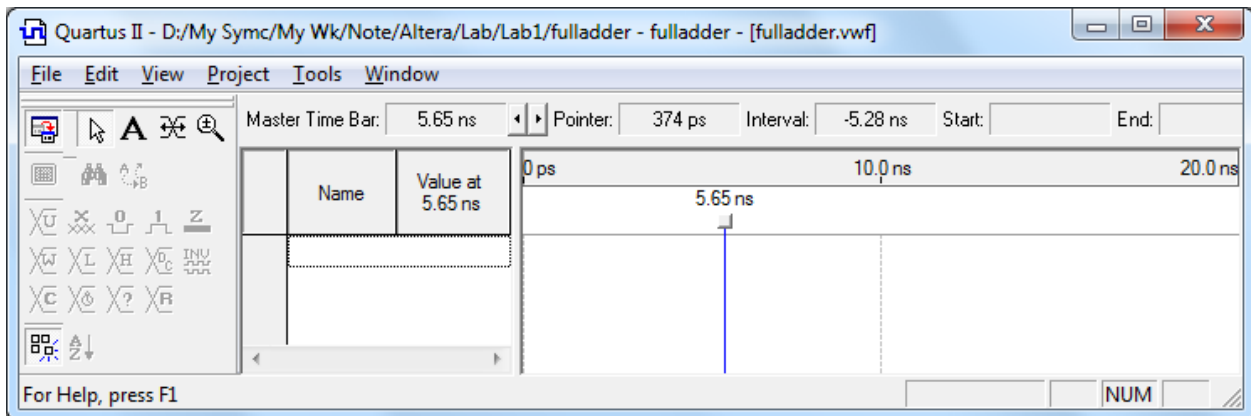

Figure 15: The Waveform Editor window
2. The Waveform Editor window is depicted in Figure 15. Save the file under the name **fulladder.vwf**. Set the desired simulation to run from 0 to 20 ns by selecting "**Edit > End Time**" and entering 20 ns in the dialog box that pops up like Figure 16. Selecting "**View > Fit**" in Window displays the entire simulation range of 0 to 20 ns in the window.